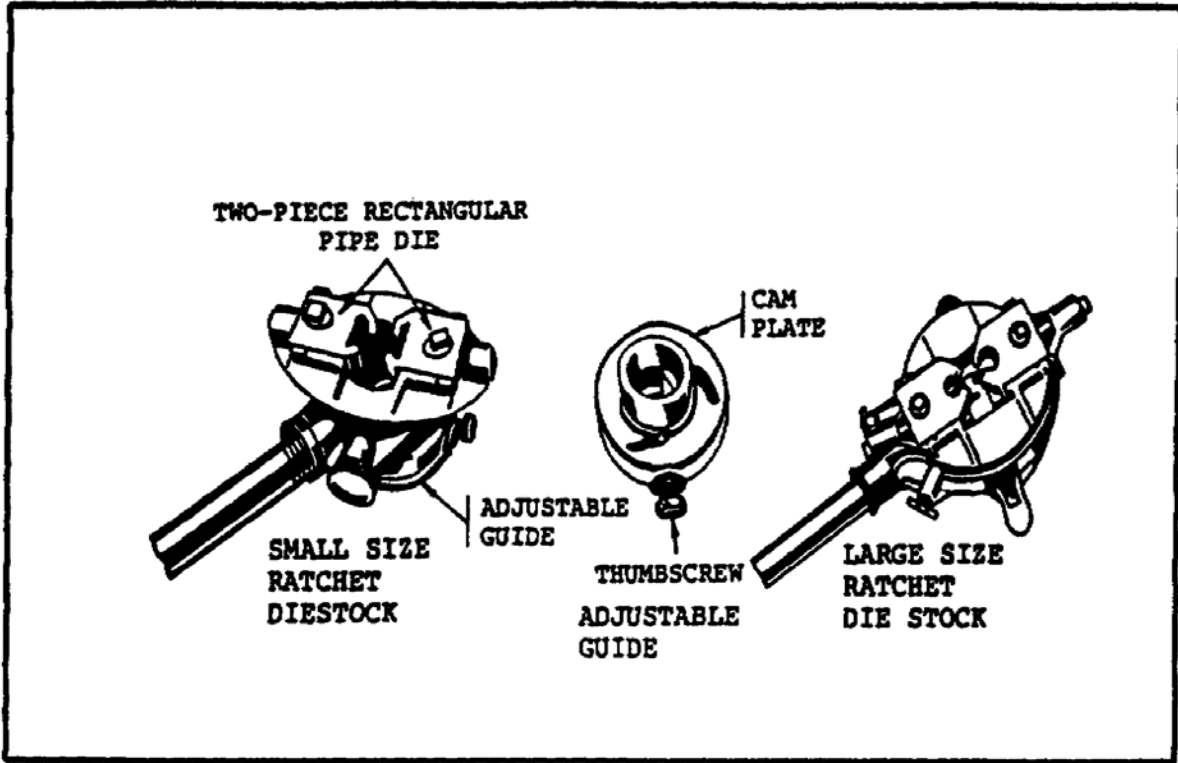
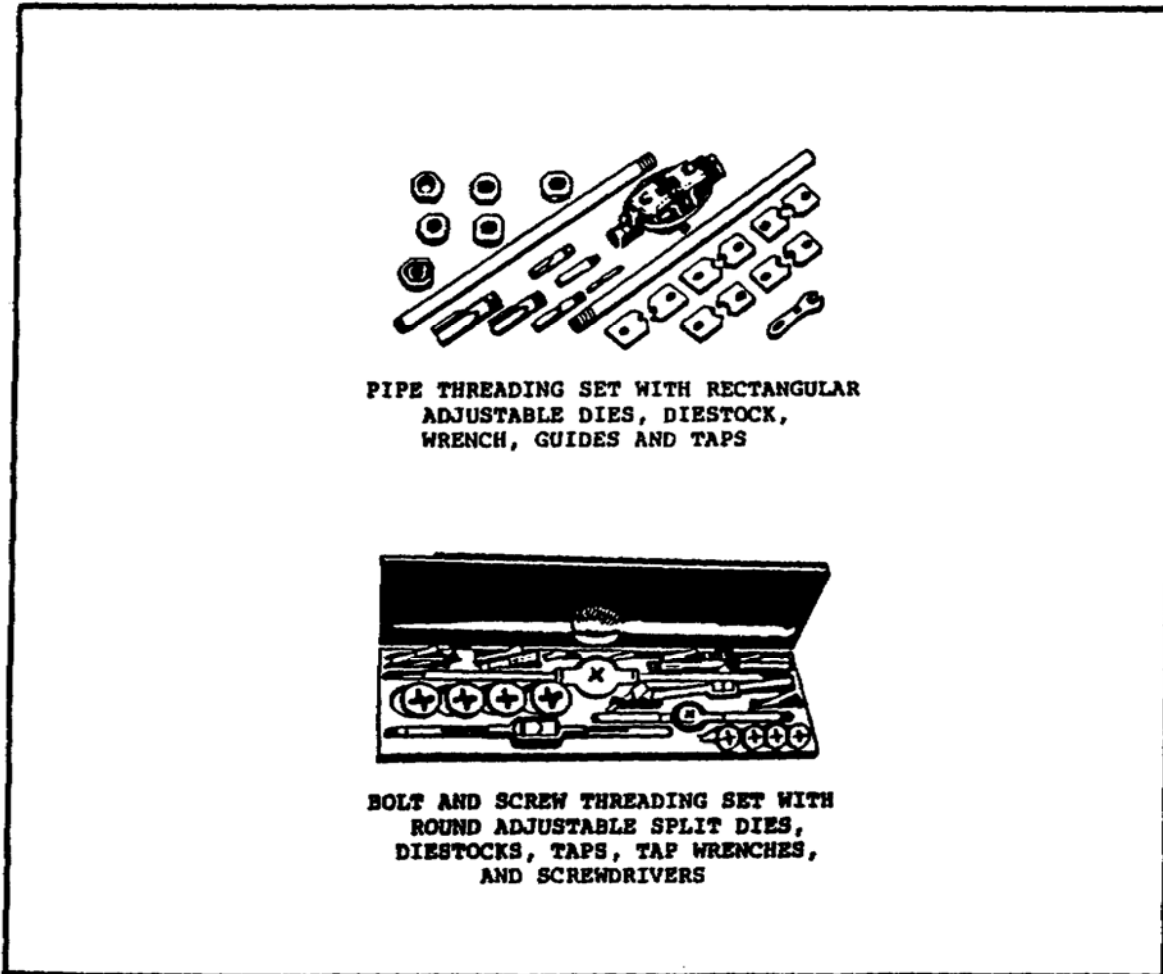

FIGURE 131. ADJUSTABLE DIE GUIDE AND RATCHET DIE STOCKS.
FIGURE 132. THREADING SETS.
(c) *Two Piece Rectangular Pipe Dies.* Two piece rectangular pipe dies are available to cut American Standard Pipe threads. They are held in an ordinary or ratchet type diestock. The jaws of the dies are adjusted by means of setscrews. An adjustable guide serves to keep the pipe in alignment with respect to the dies. The smooth jaws of the guide are adjusted by means of a cam plate; a thumbscrew locks the jaws firmly in the desired position (figure 131). Nonratchet type diestock and plain guides are also available for pipe threading (figure 132).
d. *Threading Sets.* Threading sets are available in many different combinations of taps and dies, together with diestocks, tap wrenches, guides, and necessary screwdrivers and wrenches to loosen and tighten adjusting screws and bolts. Figure 132 illustrates typical threading sets for pipe, bolts, and screws.